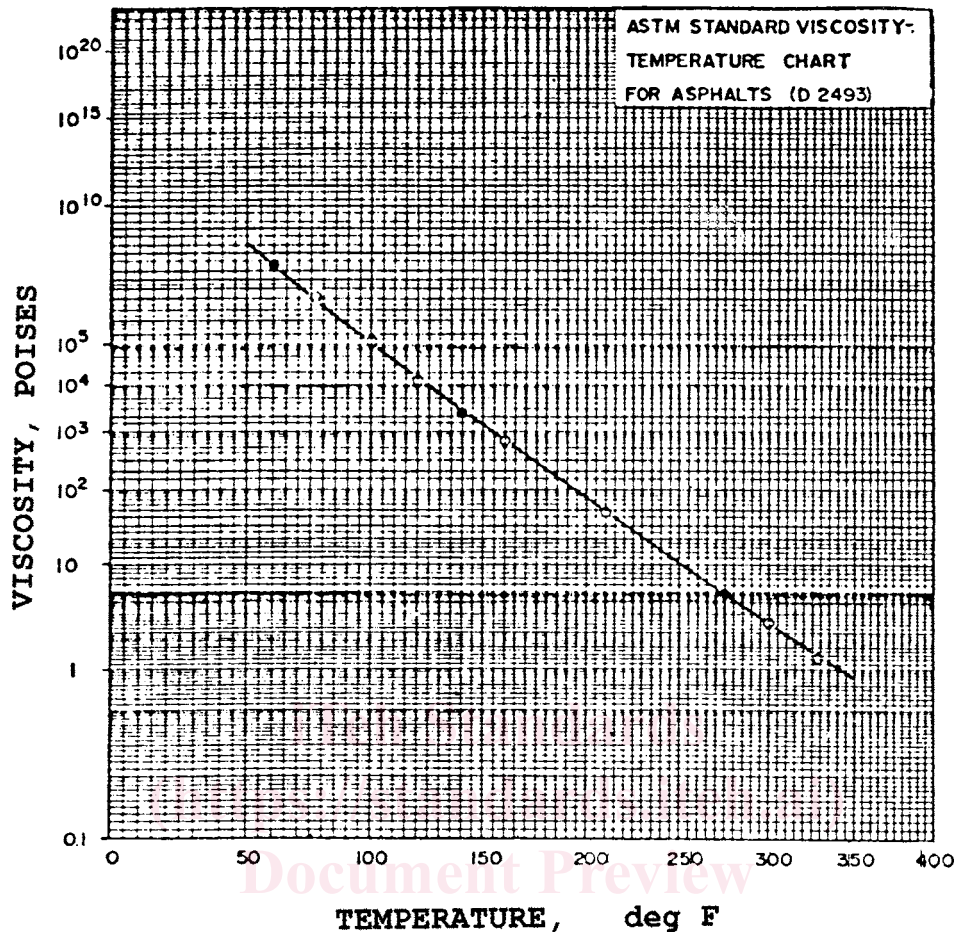

FIG. 1 Faesimile of Viscosity-Temperature Chart for Asphalts on Which a Typical Experimental Curve Has Been Plotted
4.1 For Fig. 1, the chart coordinates are logarithm of the logarithm of the viscosity in centipoise as the ordinate, and logarithm of the absolute temperature in Degrees Rankine (degrees F +459.7) as the abscissa. However, the viscosity in poise and the temperature in degrees Fahrenheit is shown in the chart for convenience.³
4.1.1 The range of the chart is 10^{-1} to 10^{24} poise and 0 to 400°F, as shown in Fig. 1. Its size is 16 by 17 in. (406 by 432 mm).